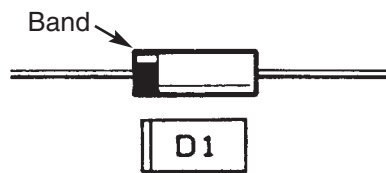

Figure 2
- Install and solder D1, the 1N5234 diode. **Note:** the diode has polarity as indicated by the band. Mount the diode with the band corresponding to the PC board marking as shown in Figure 2.